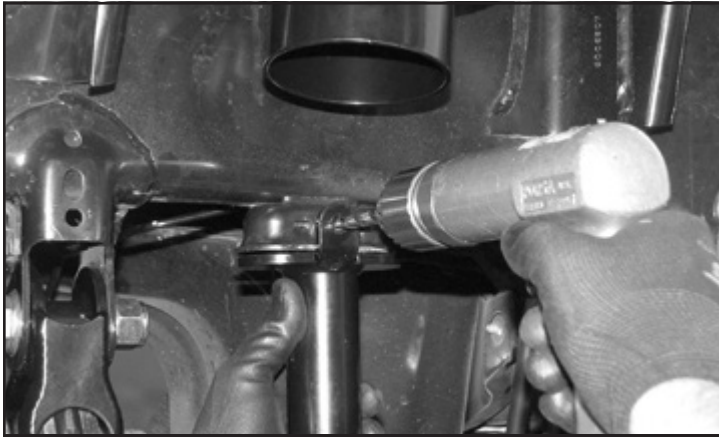

FIGURE 28 - STEP 33
33. Using the outer tab on the bump stop as a drill guide, drill a 5/16" hole all the way through the factory bump stop mount. **SEE FIGURE 28**